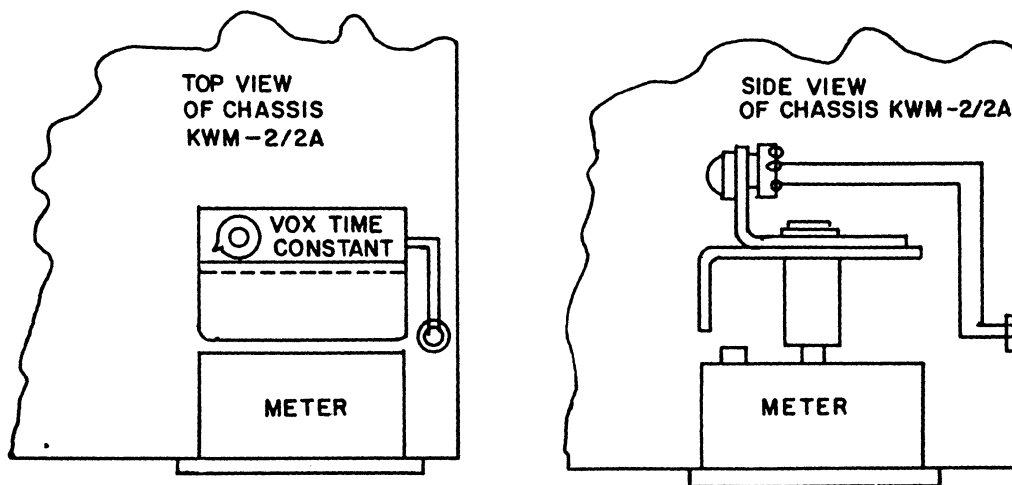

Figure 3. Installation of VOX Time Constant Control and Bracket
8. Mount VOX TIME CONSTANT control bracket (546-7971-00) on the meter shield using hardware removed in step 7. See figure 3.
10. Solder the other wire to the counterclockwise terminal (as viewed from the shaft end) of the control. Refer to figure 3.